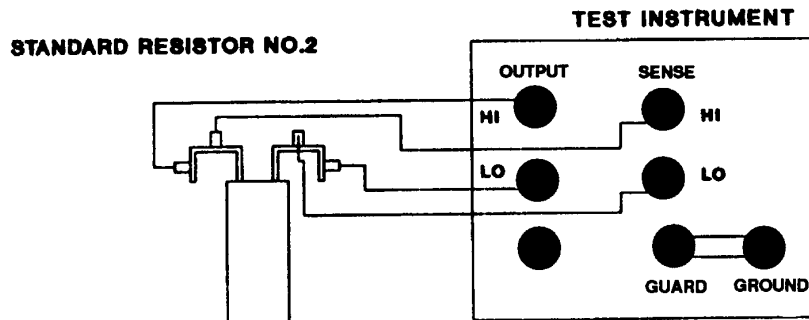

Figure 4. 1 Ω internal calibration.
- l. Connect equipment as shown in figure 4.